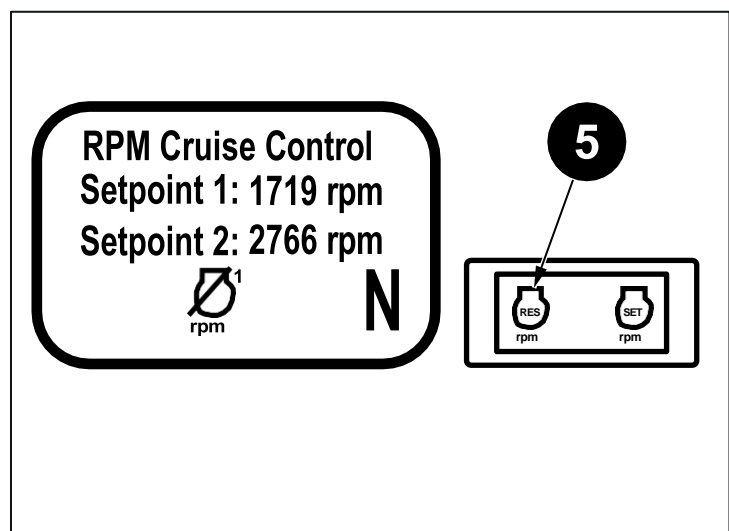

Fig. 4.25
- Press the “SET” button (1) once (quick press), the selected setpoint will start flashing.
- Press the “SET” button (1) once (quick press) to store the value.
- Once the operation is finished, wait 5 seconds to return to the home screen. To be able to use the CC see Fig. : 4.25.